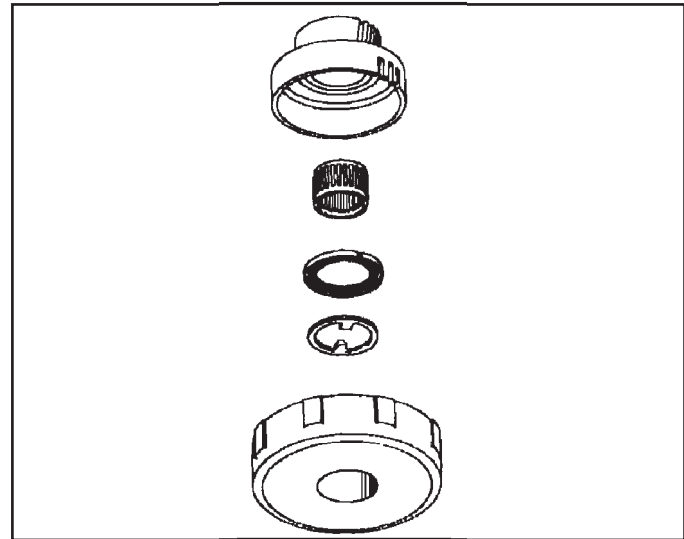

Figure 94
1. Remove the 1st drive gear from the 1st clutch drum assembly and inspect the teeth and bearing race for wear, chipping or pitting and replace as necessary (See Figure 94).
2. Remove the caged needle bearing from the 1st clutch drum assembly by carefully expanding the caged bearing from the open end separating it from the inner race (See Figure 94).
3. Remove the single sided bearing thrust washer (See Figure 94).
4. Remove the tapered bearing race washer (See Figure 94). Inspect all bearings and races for wear.